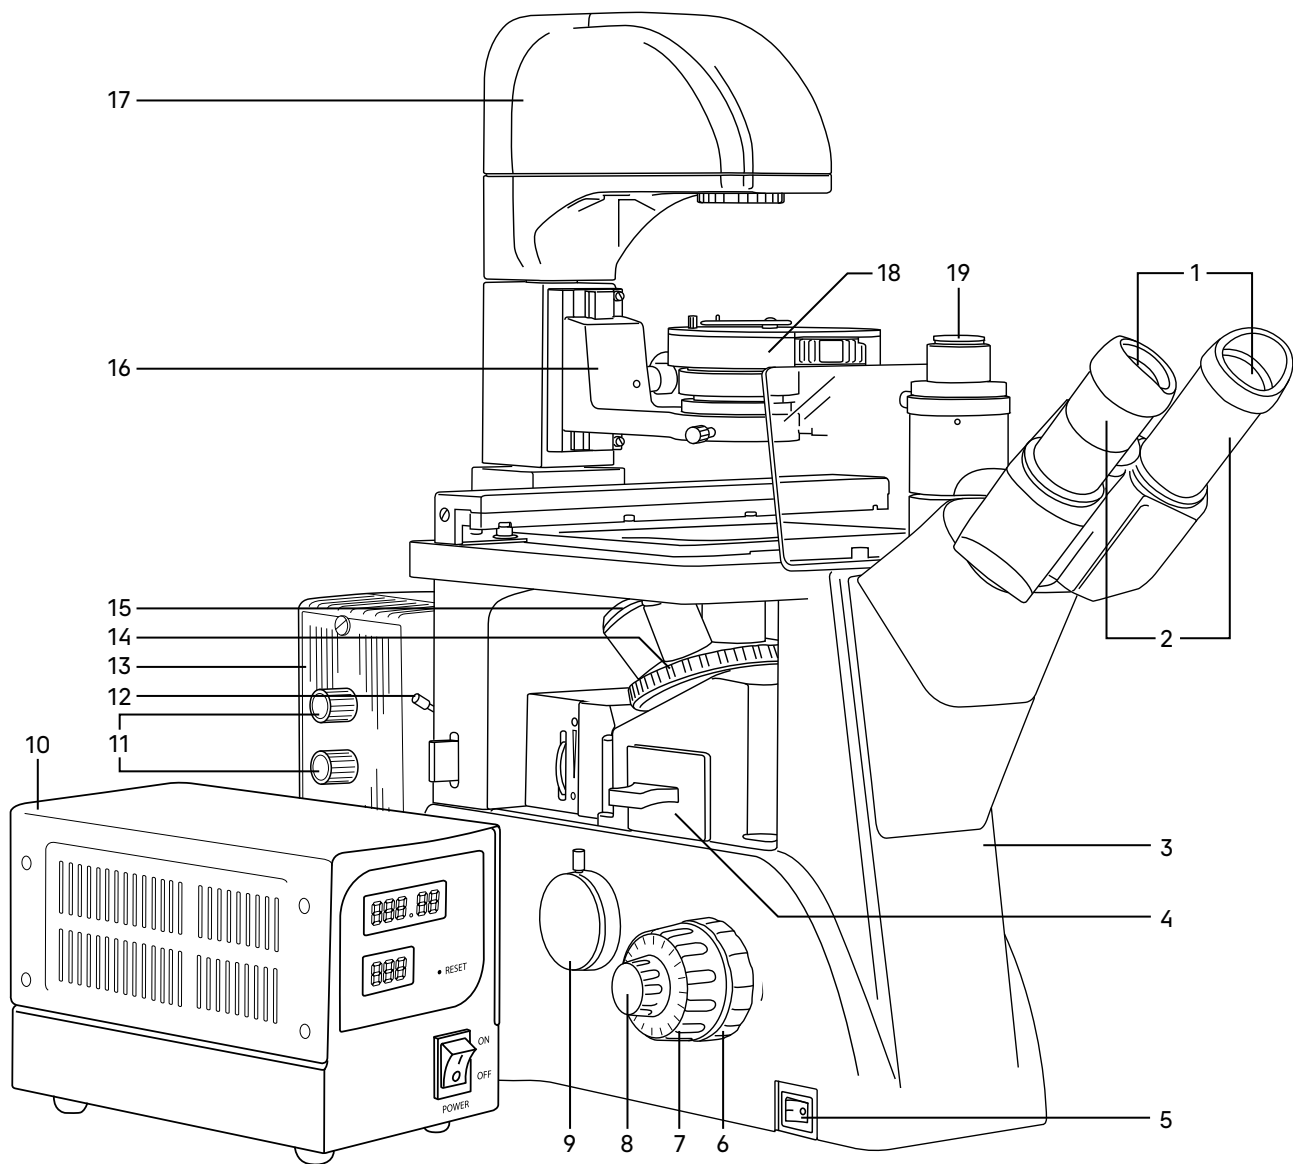
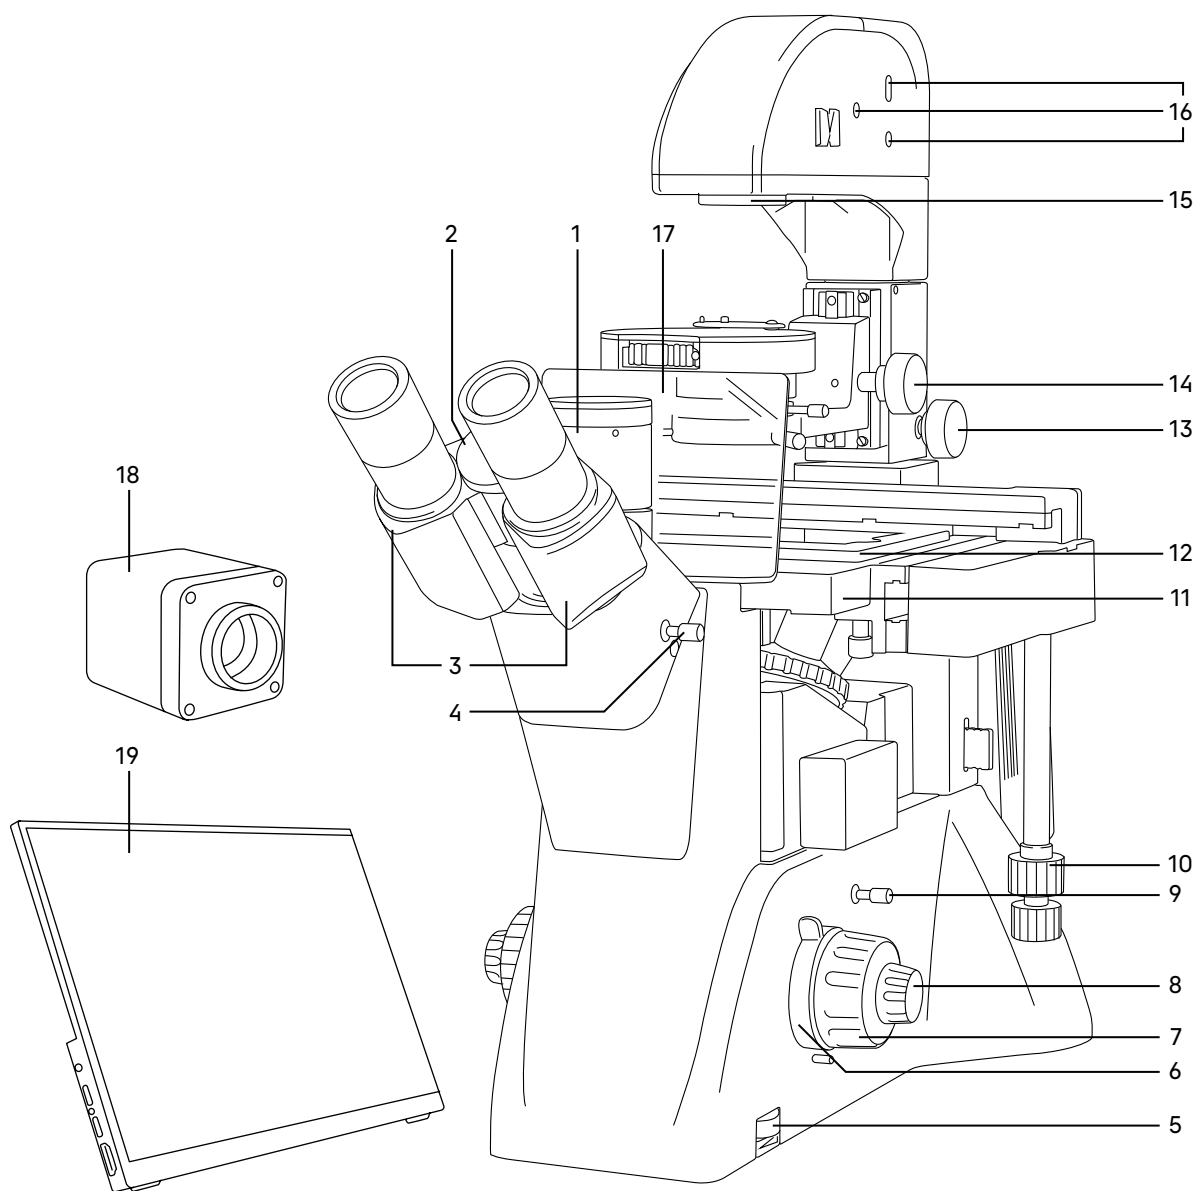

Fig. 1. MAGUS Lum VD500 LCD. View from the left
Fig. 2. MAGUS Lum VD500 LCD. View from the right
The general view of the microscope is given in Fig. 1 and 2.
Parts attached to the microscope stand 3 (Fig. 1):
- revolving nosepiece 14 (Fig. 1) with objectives
- stage 11 (Fig. 2)
- condenser mount 16 (Fig. 1)
- transmitted light illuminator 17 (Fig. 1)
- microscope head 3 (Fig. 2)
- mercury lamphouse 13 (Fig. 1).
There is an ON/OFF switch 5 (Fig. 1) on the left side of the stand. The power is on when the switch is in "-" position. The power is off when the switch is in "0" position.
There is a ring 5 (Fig. 2) on the right to adjust the supply voltage of the light source.
There is a camera port 9 (Fig. 1) on the left side of the stand. The microscope is equipped with a C-mount adapter, which is installed in the port and secured with a screw. The camera is mounted on the adapter. The camera is used to transmit the image to a computer screen or monitor/TV.
Focusing on the specimen is achieved by adjusting the height of the revolving nosepiece with objectives. Coarse focusing is performed by rotating the coaxial knobs 7 (Fig. 1, 2) on both sides of the microscope stand.
Fine focusing is performed by rotating the knobs 8 (Fig. 1, 2) on both sides of the microscope stand. Fine focusing allows for more precise focusing on the specimen and re-focusing the microscope to get an accurate image resolution when changing objectives and specimens.
The coarse focusing tension adjusting knob 6 (Fig. 1) is the ring between the stand and the coarse focusing knob on the left side. The ring adjusts the coarse focusing tension so that the tension is comfortable for the user, but the revolving nosepiece with objectives does not lower spontaneously during operation.
The coarse focusing lock knob 6 (Fig. 2) is located on the right side. Once the coarse focusing is completed, we recommend rotating the knob clockwise as far as it will go. This secures the coarse focusing position to allow for rapid re-focusing after the specimen is changed.
The trinocular head provides the visual observation of the specimen image. The microscope head is pre-installed on the stand 3 (Fig. 1). The eyepiece tube assembly is inserted into the head socket and secured with a screw. When installing the eyepiece tubes 3 (Fig. 2), turn them upwards or downwards to adjust it to the observer's height.
The interpupillary distance is adjusted by rotating the eyepiece tubes 2 (Fig. 2) in the range of 48–75mm. The distance between the eyepieces matching the observer's interpupillary distance is marked on the adjustment scale 2 (Fig. 2).
An imaging system with a monitor is installed in the trinocular tube 1 (Fig. 2) using a C-mount 1x adapter 19 (Fig. 1).
You can switch the light path to the trinocular tube using the lever 4 (Fig. 2). The lever has two positions: 100/0 and 50/50.
The microscope kit includes eyepieces 2 (Fig. 1). The eyepieces have high eye relief and are designed to work with or without glasses.
The revolving nosepiece 14 (Fig. 1) allows for the installation of six objectives. Objectives are changed by rotating the knurled ring of the revolving nosepiece until the objective fits into place.
Objectives 15 (Fig. 1) are designed for the infinity-corrected tube length. Parfocal distance – 45mm, linear field of view – 22mm. The objectives have long focal length and are intended to be used with glassware with a bottom thickness of 1.2mm.
The illuminator 17 (Fig. 1) is fixed on the microscope stand. The light source – 12V/30W halogen bulb – is adjusted to the optical path and collector lens using three screws 16 (Fig. 2). A collector with a field diaphragm, which is adjusted to match the magnification of the objective positioned in the optical path, is fixed in the lamp house.
The essential part of the illuminator is the condenser. The condenser mount 16 (Fig. 1) is fixed on the microscope stand. It can be moved using the knob 14 (Fig. 2). The condenser 18 (Fig. 1) is installed in the condenser mount. Screw type fastening. The condenser can be used for the brightfield and phase-contrast techniques. The rotating turret accommodates annular diaphragms used with 10x, 20x, 40x phase-contrast objectives and an open slot for the light beam to pass through. The annular diaphragms are changed by rotating the knurled part of the turret until it locks into place. The number corresponding to the magnification of the applied phase contrast objective is shown in the condenser window, the number "0" corresponds to the free slot. Below the rotating turret, there is an iris diaphragm which allows setting a specific aperture for using brightfield objectives. To achieve greater contrast, you can use the color filters supplied with the microscope. Color filters are fitted in the swing-out filter holder.
When using tall glassware, you can remove the condenser from the optical path. The knob 13 (Fig. 2) is used to fix the device.
The stage 11 (Fig. 2) is fixed on the microscope stand. There is an attachment on the stage that enables movement of the specimen in two mutually perpendicular directions. The specimen is moved using the knobs 10 (Fig. 2) located on the same axis.